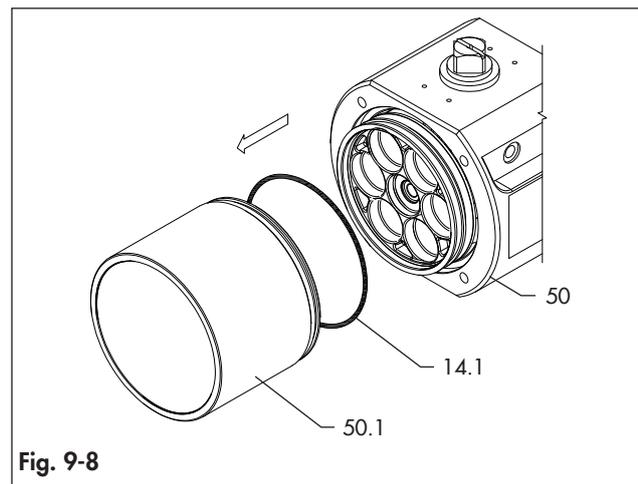
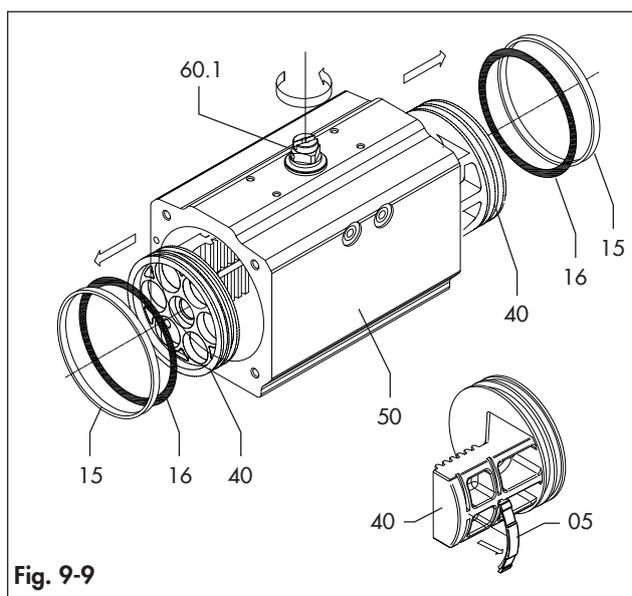

Fig. 9-8
Fig. 9-9
Refer to Fig. 9-1, Fig. 9-2, Fig. 9-8 and Fig. 9-9.
- Remove the body extensions (50.1) and o-rings (14.1) from both sides of the body (50), if any. (Fig. 9-8)